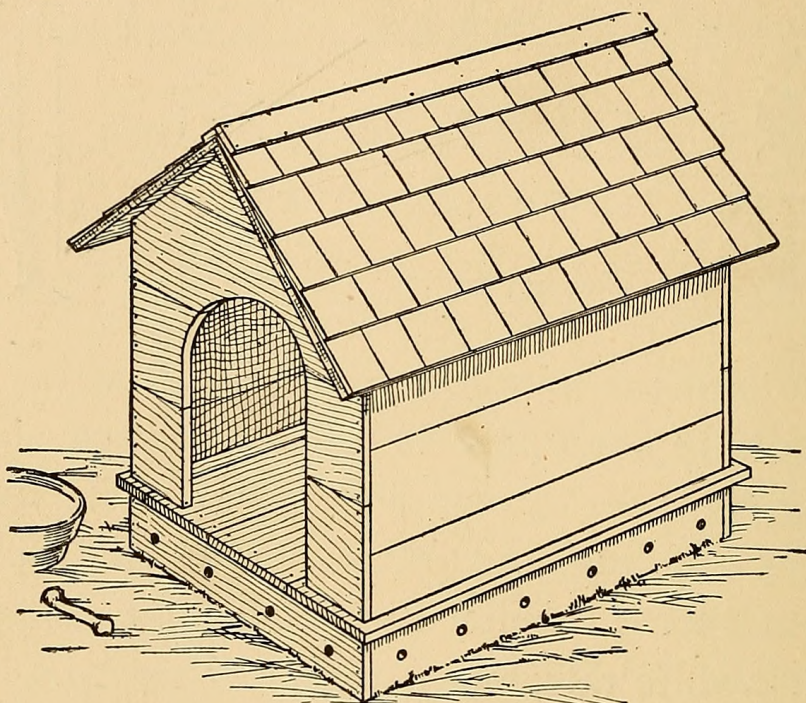

FIG. 495. — A Dog-house.
**A Dog-house** may be constructed out of packing-boxes or may be built up of any boards you can find about the place. Figure 495 shows a well-planned house of medium size, with a feature which is too frequently omitted in building one — provision for ventilation. If the house is set directly upon the ground, the floor is usually damp, for there is little or no chance for it to dry out after a rain, but by raising it a few inches as